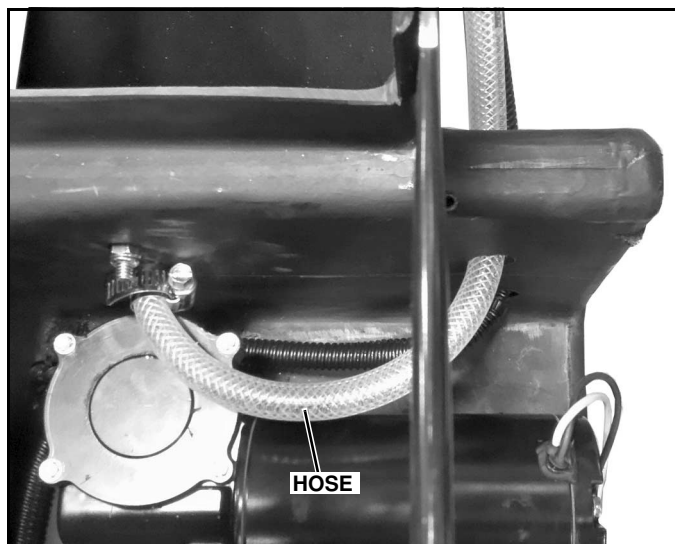

Figure 1-15
17. Slide the rest of the hose through the remaining drilled holes. Be sure not to pinch or kink the hose. (See Figure 1-15)